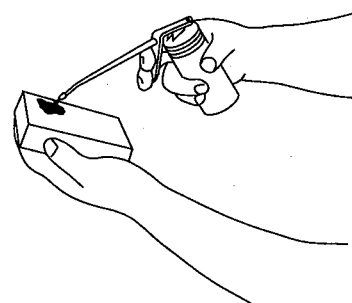

Figure 24
5. Apply one tablespoon of SAE 30W oil to the air filter (Fig. 24).